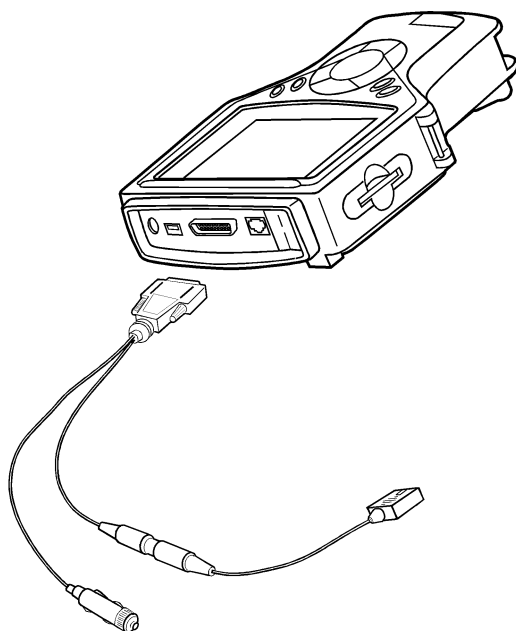

Figure 2.11: DB25 Power Cable Connection to NGIS Tool
- 2 Connect the cable's 25-pin connector to the DB25 port on the top of the NGIS tool. Finger tighten the connecting screws (see Figure 2.11).